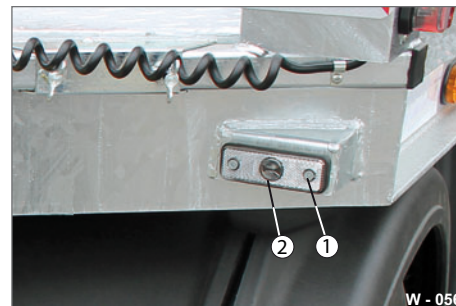

Fig. 56 Front wall limit light
- ▶ Loosen the fixing screws (Fig. 56/1).
- ▶ Remove the LED light (Fig. 56/2) - remove connection.